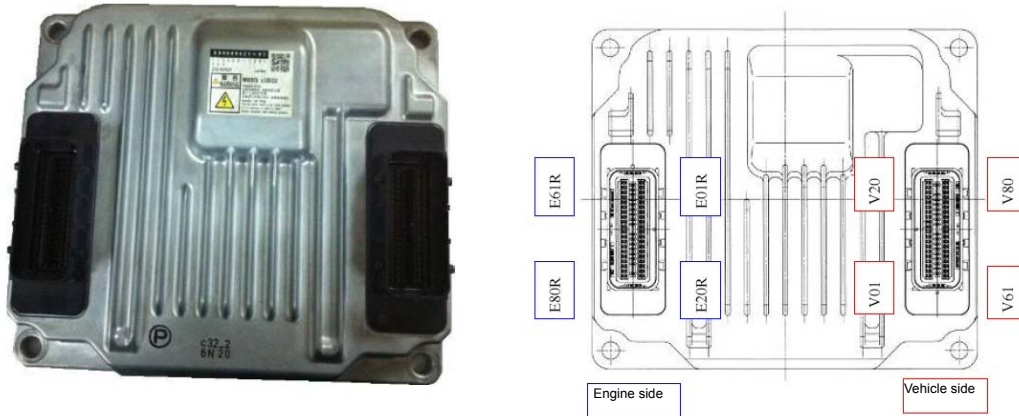

Fig. 6-12
- (1) ECU diagram and pin numbering rules: As shown in Fig. 6-12, there are two ECU connectors: E-engine connector and V-vehicle connector. Each connector has 80 pins.